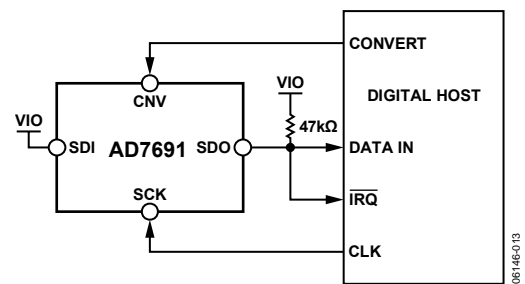
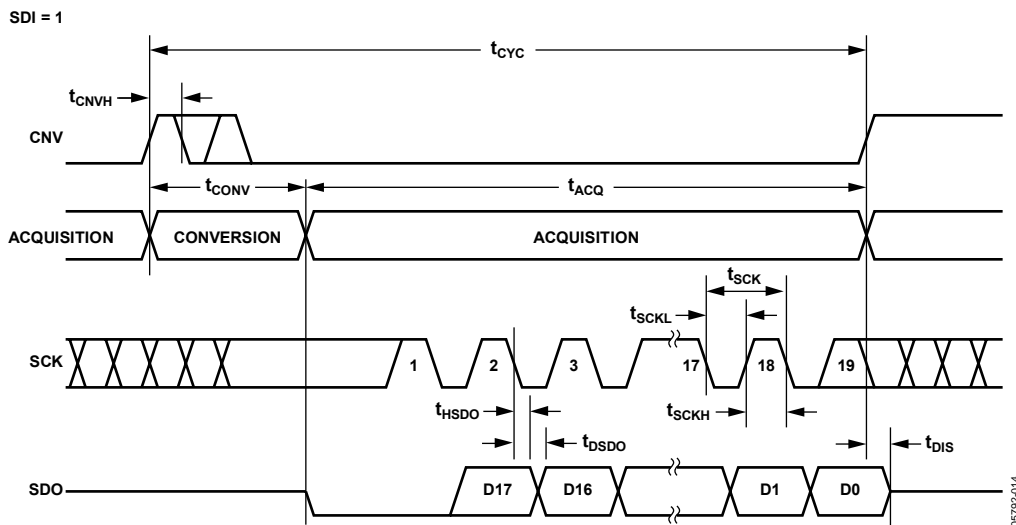
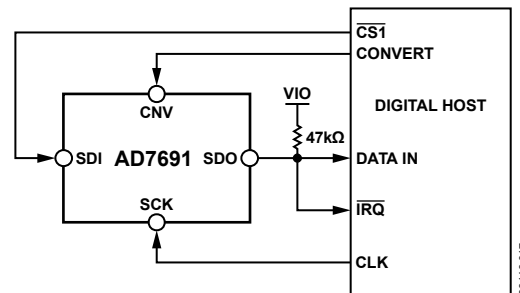
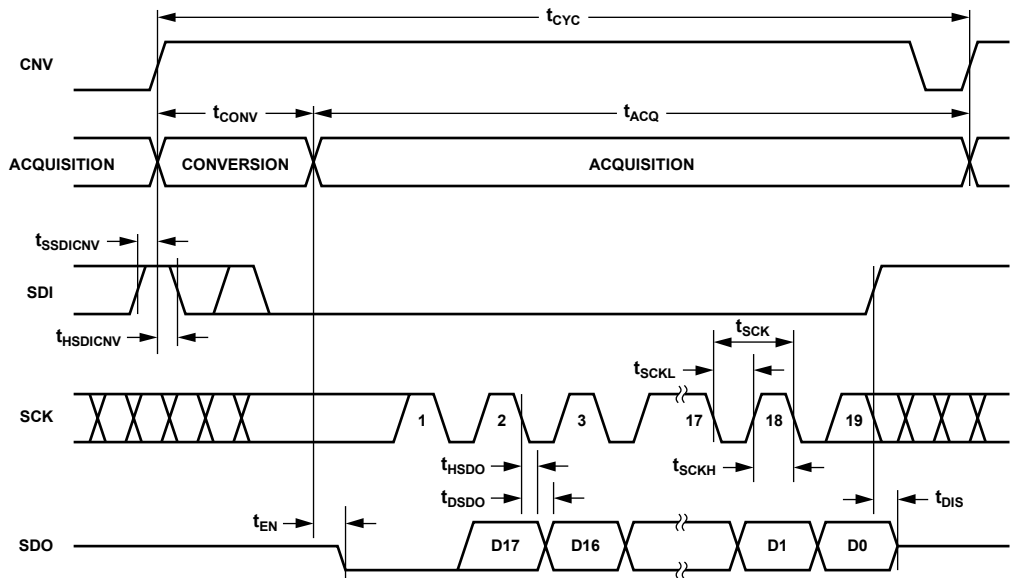

Figure 36. 3-Wire  $\overline{CS}$  Mode with Busy Indicator Connection Diagram (SDI High)
Figure 37. 3-Wire  $\overline{CS}$  Mode with Busy Indicator Serial Interface Timing (SDI High)
Figure 40. 4-Wire  $\overline{CS}$  Mode with Busy Indicator Connection Diagram
Figure 41. 4-Wire  $\overline{CS}$  Mode with Busy Indicator Serial Interface Timing
- In the  $\overline{CS}$  mode if CNV or SDI is low when the ADC conversion ends (see Figure 37 and Figure 41).
The connection diagram is shown in Figure 36, and the corresponding timing is given in Figure 37.
The connection diagram is shown in Figure 40, and the corresponding timing is given in Figure 41.